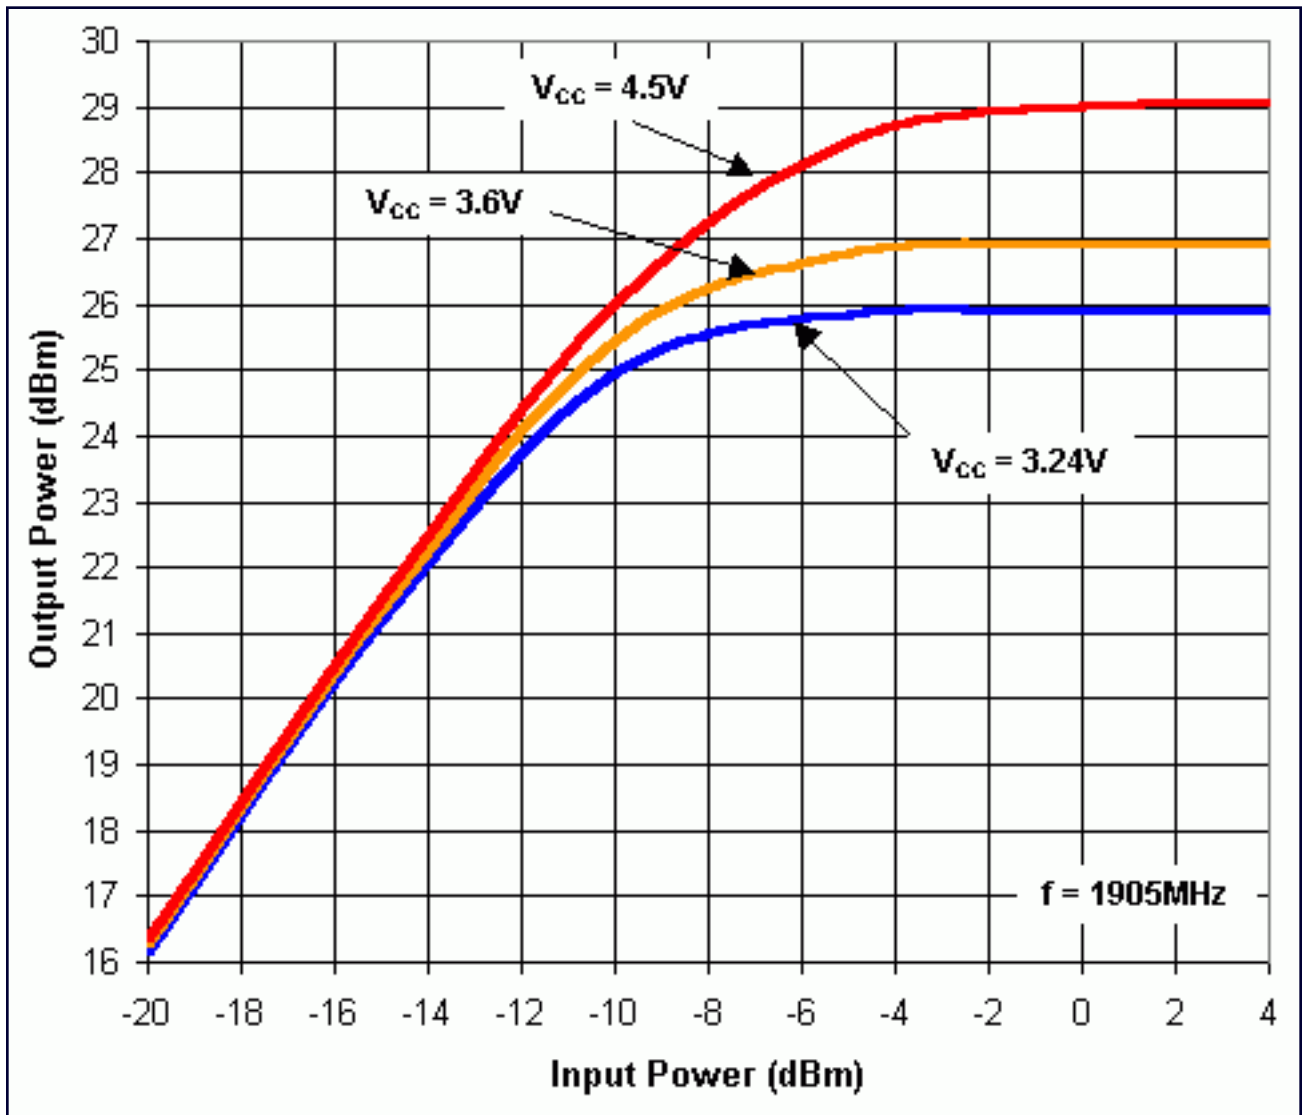

Figure 1. MAX2242 1.9GHz DECT Output Power Versus Input Power
*The MAX2242 is an ultra-low cost silicon bipolar power amplifier (PA) with integrated bias-circuitry, logic-level shutdown and power detector. When optimized for DECT applications in the 1.9GHz frequency band, the MAX2242 PA delivers +27dBm output power from 3.6V at a PAE of 41%, with 27dB of power gain. Output power can be increased to +29dBm when operated from a 4.5V power supply.*
The MAX2242 is an ultra-low-cost, silicon, bipolar power amplifier (PA) with integrated bias-circuitry, logic-level shutdown and power detector. The PA is packaged in the ultra-small UCSP package (1.5mm x 2.0mm). When optimized for DECT applications in the 1.9GHz frequency band, the PA delivers +27dBm output power from 3.6V at a PAE of 41%, with 27dB of power gain. Output power can be increased to +29dBm when operated from a 4.5V power supply. Refer to table 1 for the performance of the PA over supply voltage and frequency variations. Refer to Table 2 for a summary of PA harmonic suppression versus supply voltage. Refer to Figure 1 for a summary of PA Output Power versus Input Power and Supply Voltage Variations.